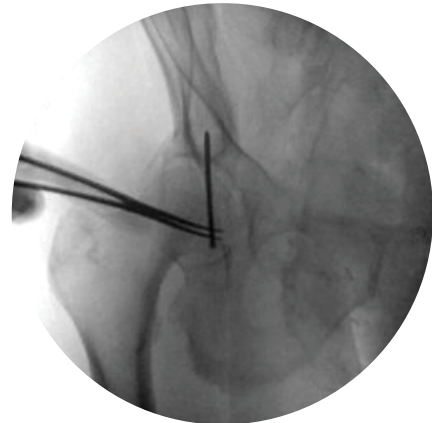

Figure 4.3
2. Advance the Pedicle Probe from the starting point described above into the sacral alar. Next, take a fluoroscopic image to confirm that the trajectory is within the "teardrop" (Figure 4.3). The image of a teardrop is produced by an overlap of the anterior inferior iliac spine and posterior superior iliac spine.